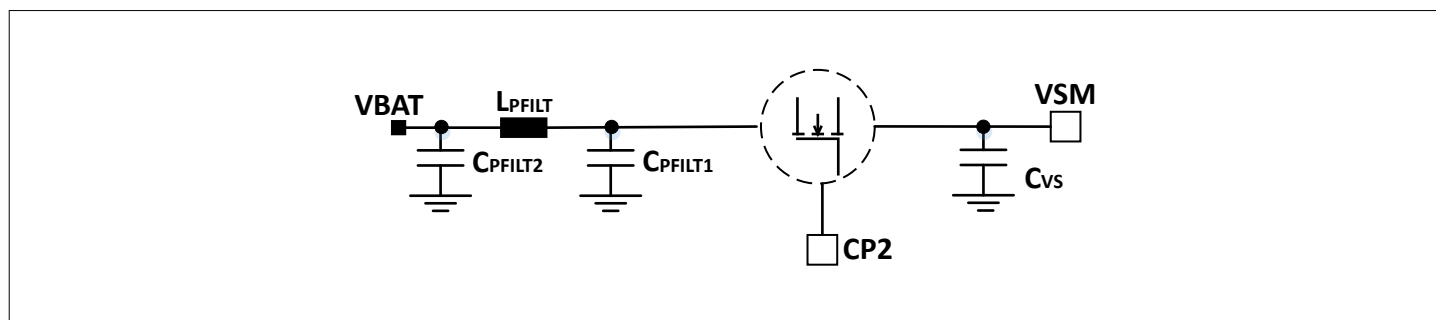

Figure 6 Reverse polarity
- The output of the charge pump 2 (CP2) can be used to supply an external n-channel MOSFET, building an active reverse polarity protection. Refer to Figure 6